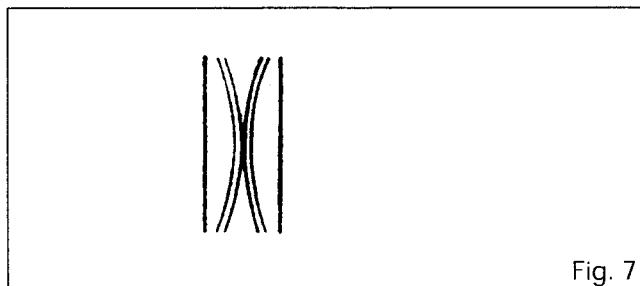
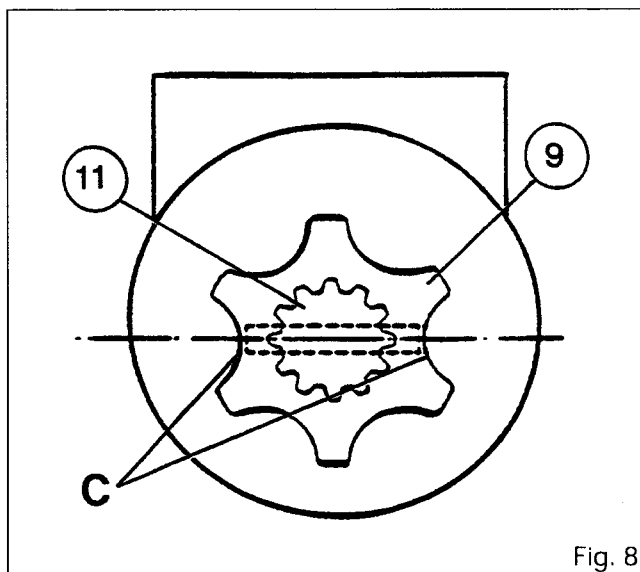
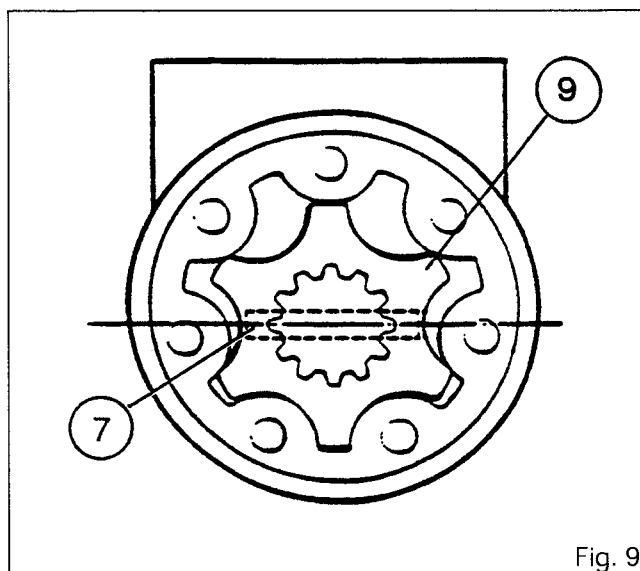

Fig. 7
Fig. 8
Fig. 9
16. Refit the check valve (26).
17. Fit seal (19), O-ring (17) and bush (15).
18. Place the balls and springs in the recesses for the shock valves (20). Screw in the threaded bushes, position the seals and tighten the caps.
19. Place the valve and spring in the recess for the relief valve (18) and screw in the threaded bush. Position the seal and tighten the cap to a torque of 40 to 60 Nm.
20. Insert the spool valve (25) in the sleeve (27). Position the centring springs (13) as shown in Figure 7 and fit the pin (7).
21. Position the ring (24) on the sleeve and spool valve assembly so that the chamfer facilitates assembly in the distribution valve.
22. Fit washers (12) and (16) with the chamfer on washer (12) directed towards the centring springs (13) and with the needle-roller bearing (14) positioned between them.
23. Fit the sleeve and spool valve assembly in the distribution valve, applying a slight oscillating movement. Check that the pin (7) is held horizontally.
24. Place the two balls and the two pins in the recesses for the suction valves (23).
25. Place the ball in the recess for the non-return valve (22) and screw in the threaded bush.
26. Position the splined link shaft (11).
27. Fit O-ring (28) and the distributor plate (29).
28. Fit the rotor (9) so that the two hollows "C" are in line with the slot in the splined shaft (11) (Fig. 8). Refit the spacer (10).
29. Place O-rings (5) and (8) on the stator (6).
30. Taking care not to move the rotor (9), fit the stator (6). Then move the stator so that its attachment holes coincide with those of the distribution valve.
Note : The rotor (9) and pin (7) must be in the position shown in Figure 9.
31. Refit the cover plate (4).
32. Refit bolt (2) (in the position marked during disassembly) and bolts (1) fitted with their seals (3). Tighten them alternately to a torque of 30 to 35 Nm.